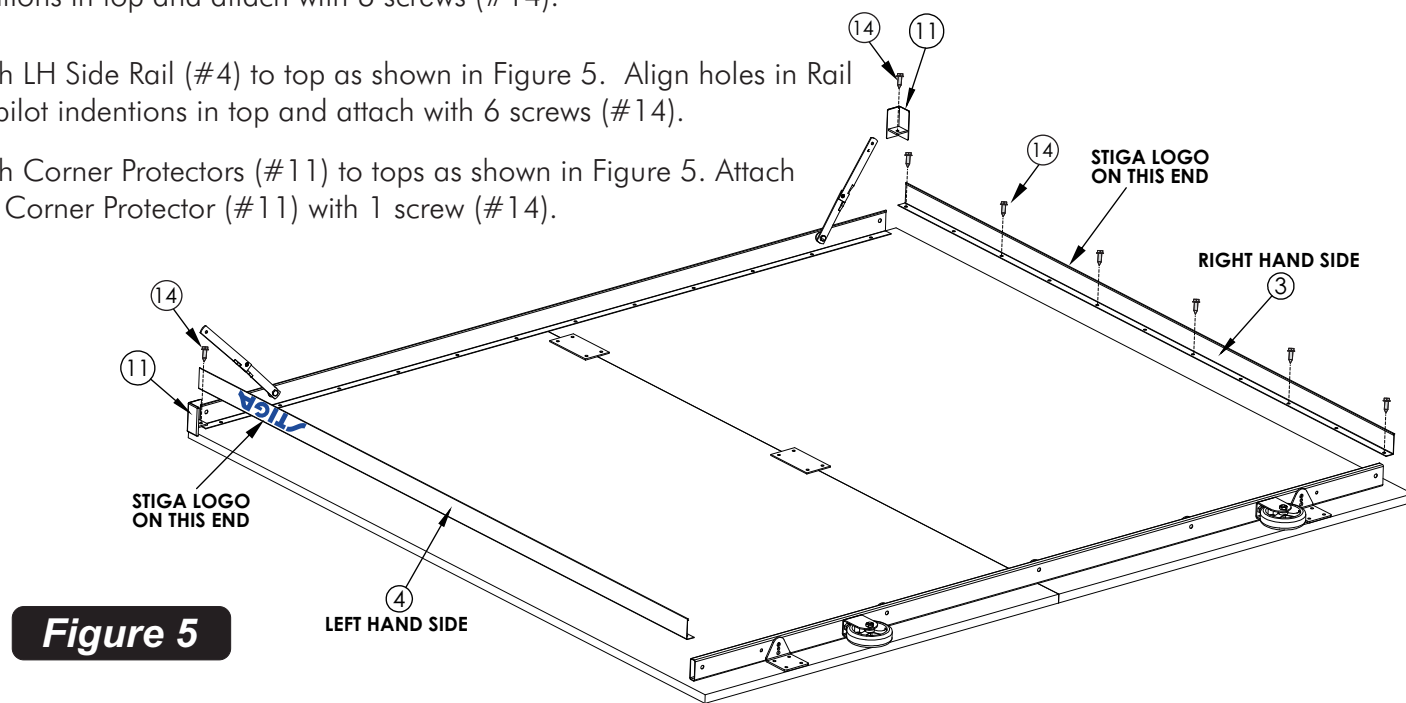

Figure 5
8. Attach RH Side Rail (#3) to top as shown in Figure 5. Align holes in Rail with pilot indentions in top and attach with 6 screws (#14).
9. Attach LH Side Rail (#4) to top as shown in Figure 5. Align holes in Rail with pilot indentions in top and attach with 6 screws (#14).
10. Attach Corner Protectors (#11) to tops as shown in Figure 5. Attach each Corner Protector (#11) with 1 screw (#14).